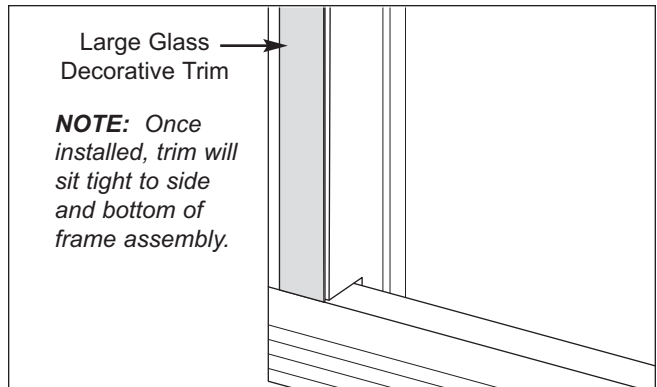

Figure 5. Decorative Trim / Unframed Assembly
- E. Adhere decorative trim panels to side brackets, so they are tight to side and bottom of frame assembly (See Figure 5).